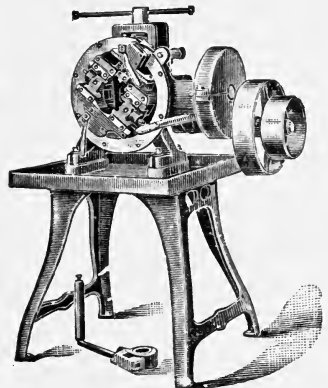

Fig. 19
**Armstrong Pipe-Threading Machine.**— An Armstrong pipe-threading machine, Fig. 19, can be run by hand or by power. It is built very strong and possesses sufficient